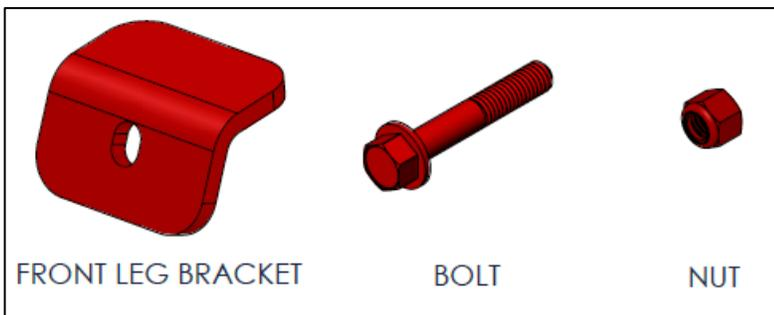

Figure 7: Additional Parts for 30 Inch and 32 Inch Seats
2. Insert the bolt from underneath the seat up through the bracket and nut (from kit TBB 221380 for driver's side or TBB 221381 for curb side). Hand tighten the bolt and nut to secure. See **Figures 7 and 8**.